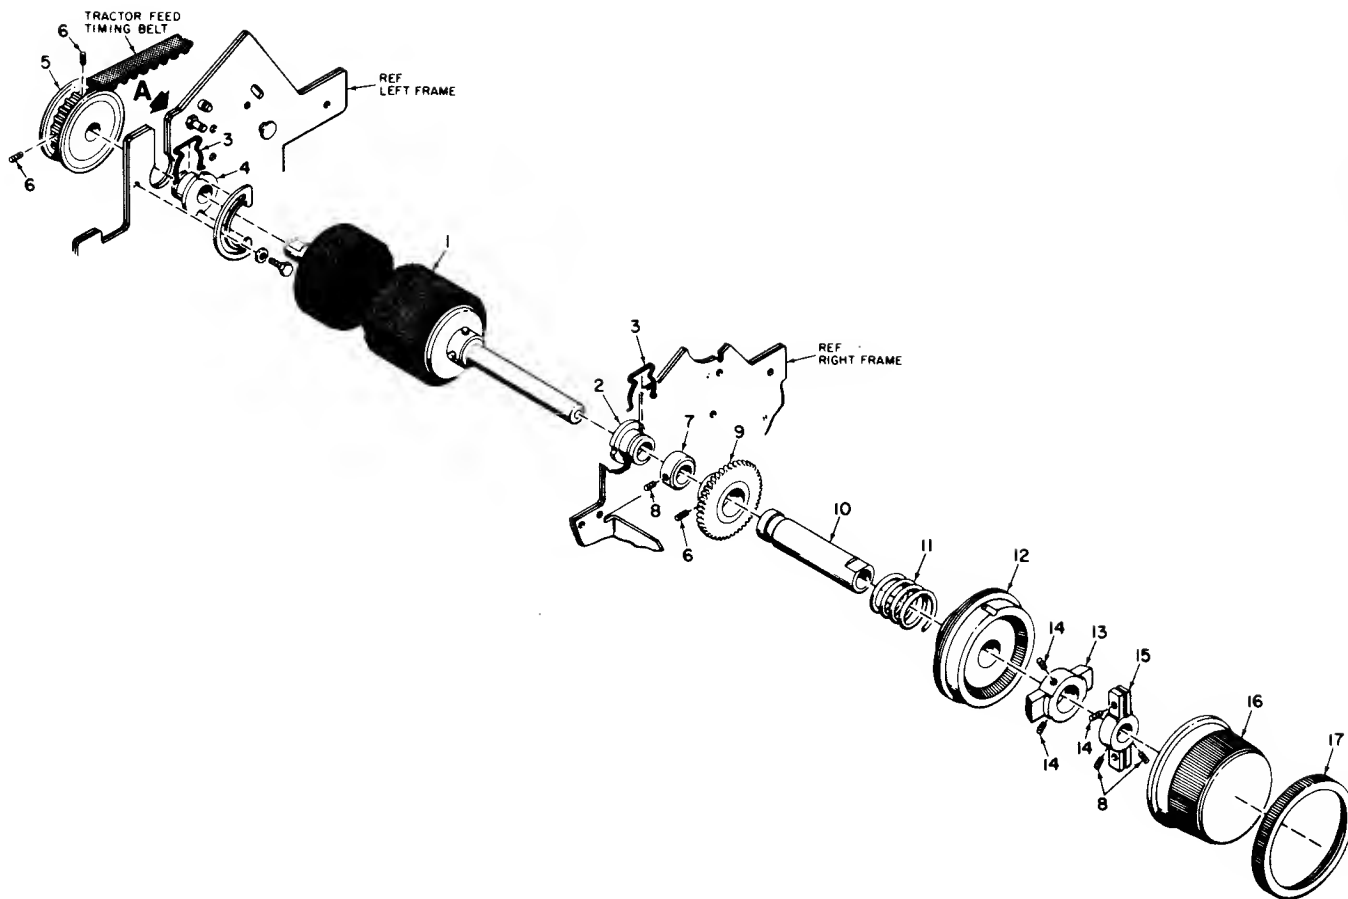

Figure 3-7A. KIT, PLATEN ASSEMBLY
3.10 PLATEN ASSEMBLY (Figure 3-7A)